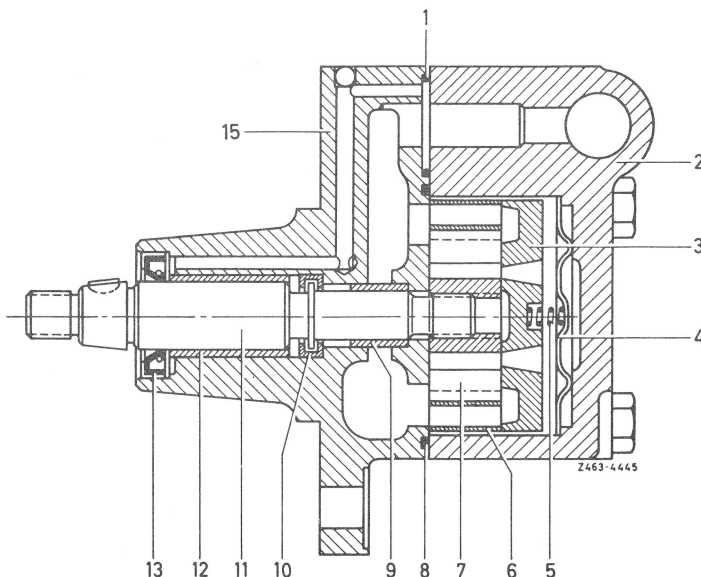

Fig. 9
10 Insert compression spring (5) into bore of pressure plate (3). If the oil guide plate (4) pressed into pump housing (2) has been removed, place into housing with the recess for the compression spring facing the pump housing (Fig. 9).
11 Place pump housing (2) on housing cover (15). Screw-in the four hex. bolts and tighten to a torque of 35 to 40 Nm (3.5 to 4 kpm) (Fig. 9).